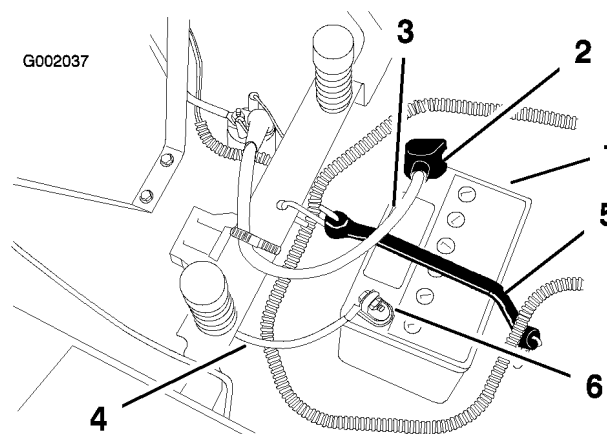

Figure 32
4. Disconnect the negative (black) ground cable from the battery post (Figure 32).
5. Slide the rubber cover up the positive (red) cable. Disconnect the positive (red) cable from the battery post (Figure 32).
6. Remove the battery hold-down (Figure 32) and lift the battery from the battery tray.
1. Position the battery in the tray with the terminal posts toward the rear (Figure 32).
4. Secure the cables with 2 bolts (1/4 x 3/4 inch), washers (1/4 inch), and wing nuts (1/4 inch) (Figure 32).
6. Secure the battery with the hold-down (Figure 32).